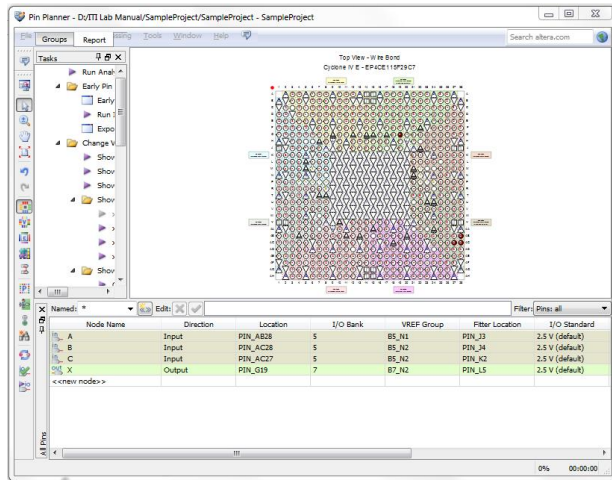

Figure 4.6.2: Pin planner window
- o The pin planner window will be displayed (Figure 4.6.2).